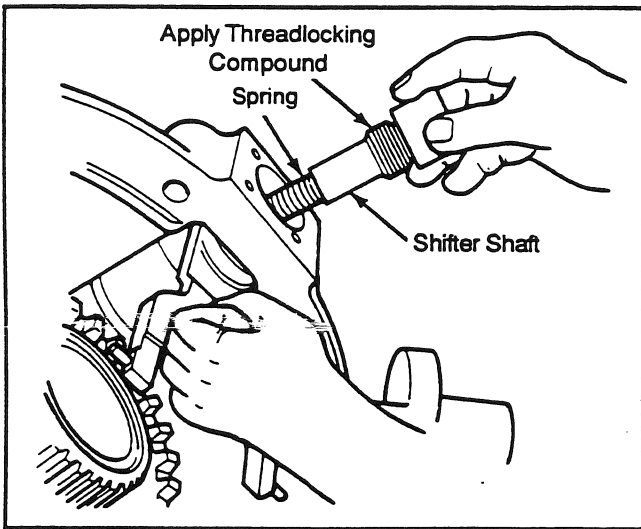

Fig. 90
2. Hold the fork in position. Install the shifter shaft spring into the shifter shaft opening, through the fork bore and into the bore for the shifter shaft spring. Slide the shifter shaft over the spring. Install the shifter shaft into the fork and tighten to the specified torque (see Fig. 90).